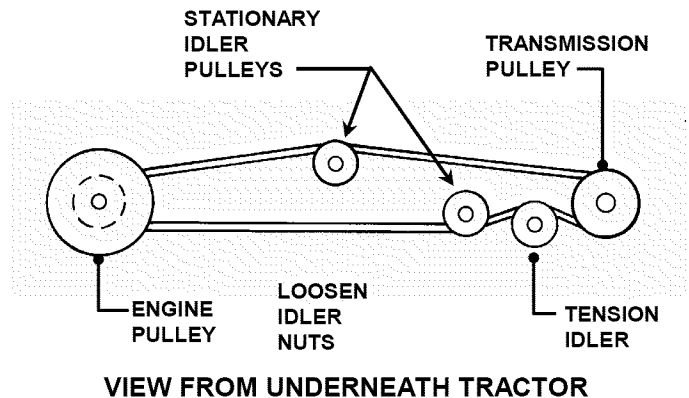

FIGURE 4.24
14. Loosen mounting nuts on traction drive belt tension and stationary idlers just enough to allow belt to clear belt guides. See Figure 4.24.